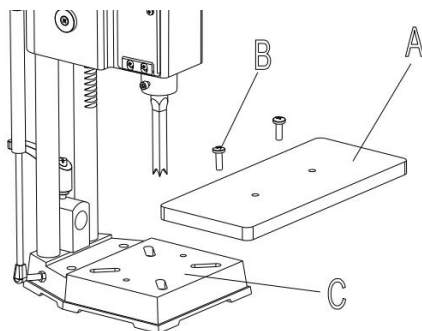

Fig. 6
1. Assemble the table (A) Fig. 6, to the base using the two M6x1x35mm flat head screws (B) Insert the two screws (B) into the two holes (D) in table (A). Place the two T-nuts (C) into the slots (E) provided in the bottom of the base and tighten the two screws (B) into the two T-nuts (C) securely.
2.The table (A) Fig. 6, can be moved in or out by loosening the two screws (B), and re-positioning the table, and then tightening screws (B).